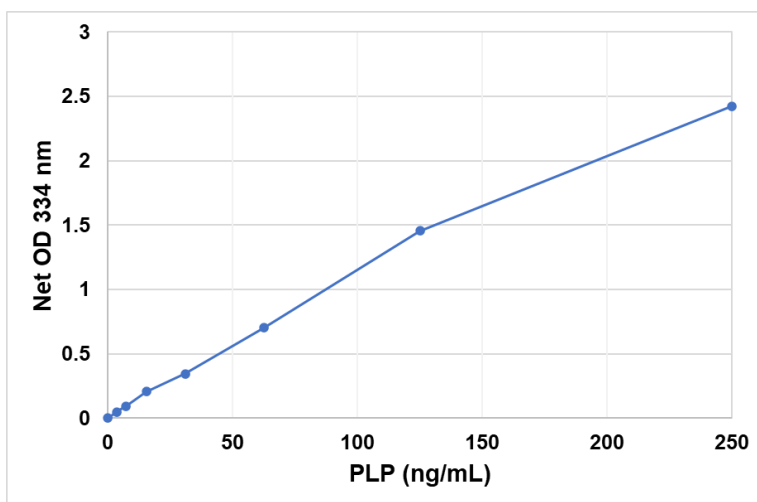

Figure 2. PLP Standard Curve.
3. Graph the standard curve (see Figure 2).